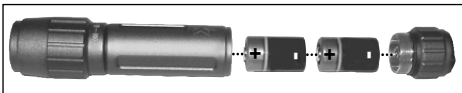

Fig. 1
1. Rotate Battery Tail-Cap counterclockwise to loosen and remove. (Fig. 1)
2. Install "CR2" batteries in the correct orientation as shown (Fig. 1). Make certain all batteries are installed correctly.